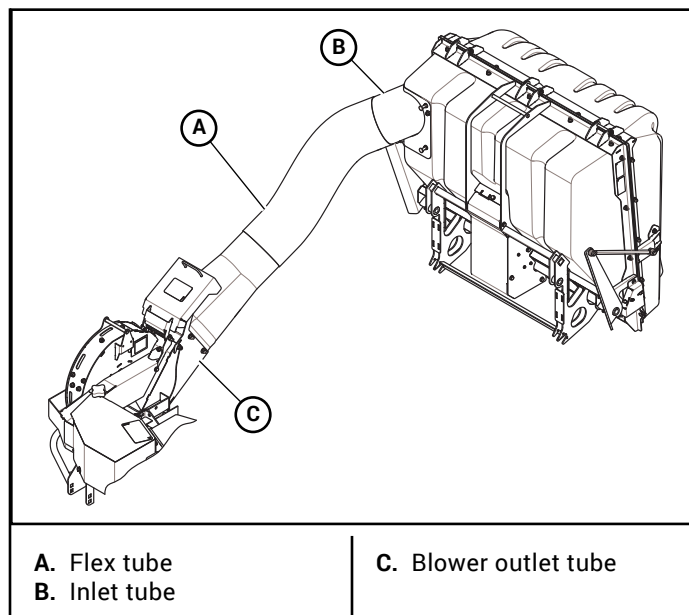

Figure 4-3
2. Remove the flex tube from the BAC-VAC™ inlet tube and blower outlet tube. Figure 4-3
3. Remove the blower outlet tube from the blower assembly. Figure 4-3
3. Remove the flex tube from the BAC-VAC™ inlet tube. Figure 4-3